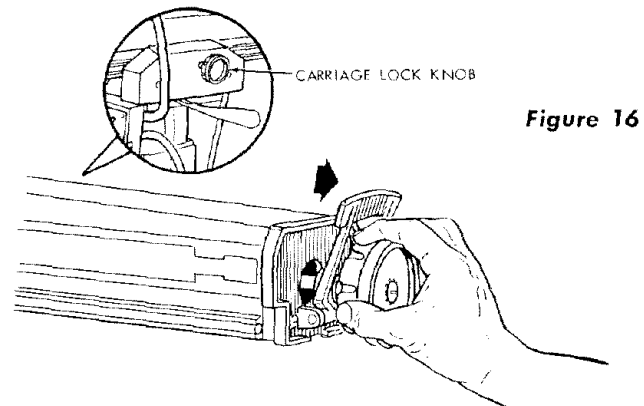

Figure 16
- c. Loosen the arm latch knob by rotating it counterclockwise until it stops. (See figure 16.) This will free the radial arm, permitting it to be
moved from right to left, by hand. Also, make sure the carriage lock knob (figure 16) is loose enough to permit the carriage to move freely back and forth on the arm.